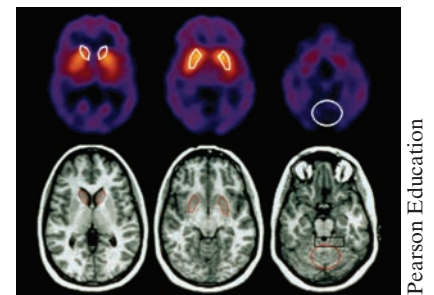

Figure 1.2 ▲ A CT scan of an adult head.
Signal-processing systems act on electric signals that represent information. They transform the signals and the information contained in them into a more suitable form. There are many different ways to process the signals and their information. For example, image-processing systems gather massive quantities of data from orbiting weather satellites, reduce the amount of data to a manageable level, and transform the remaining data into a video image for the evening news broadcast. A computerized tomography (CT) scan is another example of an image-processing system. It takes signals generated by a special X-ray machine and transforms them into an image such as the one in Fig. 1.2. Although the original X-ray signals are of little use to a physician, once they are processed into a recognizable image the information they contain can be used in the diagnosis of disease and injury.